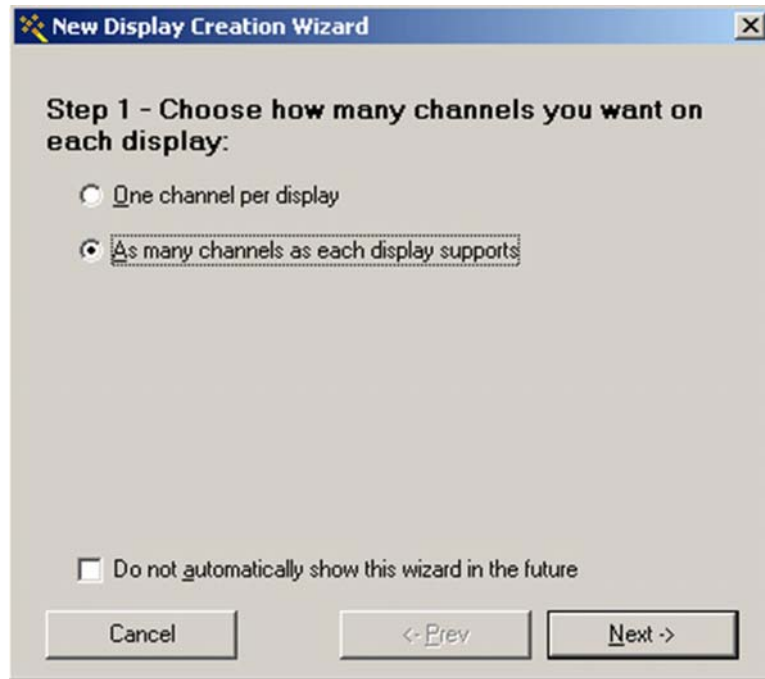

FIGURE 3-10: NEW DISPLAY CREATION WIZARD WINDOW – STEP 1
- 2) Select the desired number of channels to be displayed and click the **Next** button (see Figure 3-10).